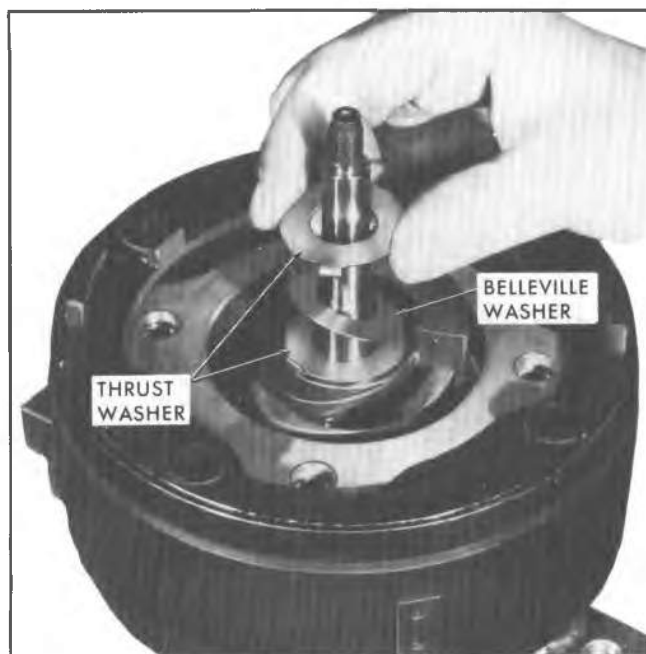

Fig. 87--Replacing Thrust and Belleville Washers
3. Install the new belleville washer on shaft with the high center of the washer up (Fig. 87).
4. Install the remaining thrust washer on shaft with the tang pointing down (Fig. 87).